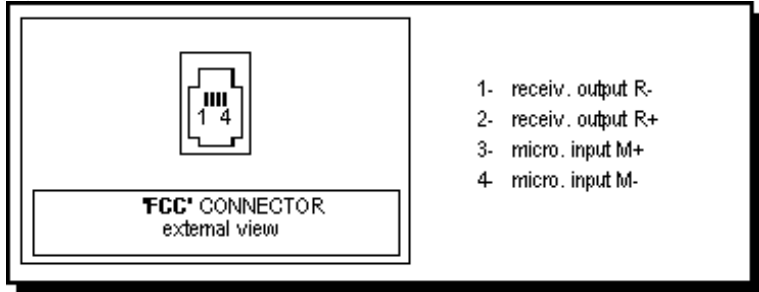
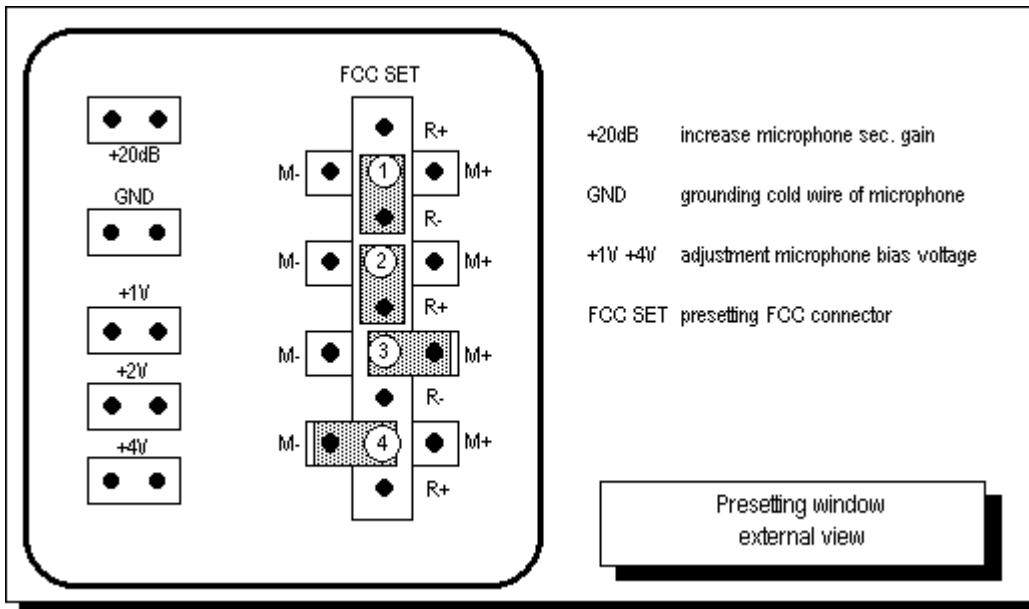

fig.6
fig.7 - Pre-setting synoptic scheme
- 2) A bias group, to use for capacitor or electret microphone, set the bias voltage on the binding post “R pol.”. The current is determined by the external resistance. In such case the negative terminal of the microphone must be connected to ground by the “GND” jumper. See fig.7 and Tab.1 for set the bias voltage and grounding.
- 4) If the generated signal by the microphone is too low and it can't be measured with the necessary accuracy, it is possible to increase the amplifier gain of 20dB, inserting the jumper "+20dB" (see fig.7).
Like shown in figure 7, section FCC SET, every terminal (1÷4) of the FCC connector (fig.6) can be associated to anyone of the input/output **FC-4** signals.
pins association shown in fig.6. Other associations can be set with different positions of the jumpers, reminding that is not possible to pre-set the same signal to more than one terminal.